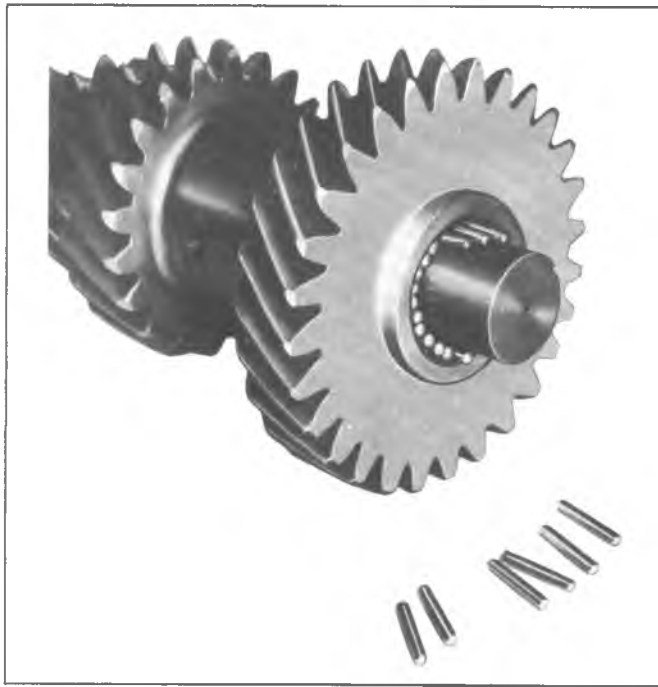

Fig. 7B-16A--Loading Countergear
4. Using snap ring pliers, expand the snap ring in the extension and assemble extension over rear of mainshaft and onto rear bearing. Seat snap ring in rear bearing groove (Fig. 7B-4A).
5. Load the mainshaft pilot bearings (14) into the clutch gear cavity and assemble the 3rd speed blocker ring onto the clutch gear clutching surface with its teeth toward the gear.